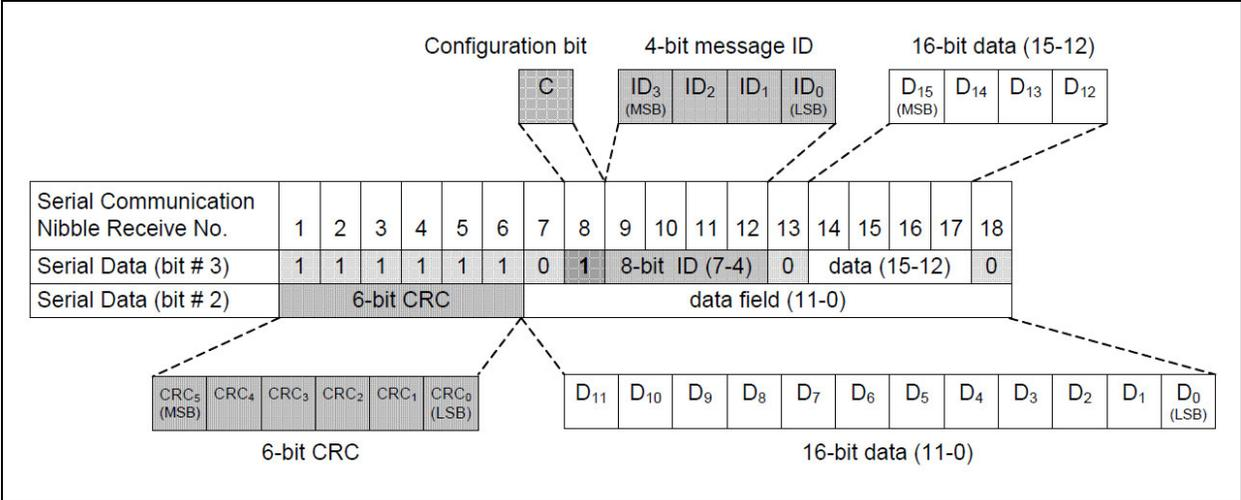

FIGURE 4-10: 16-Bit Data and 4-Bit Message ID.
- 16-bit data and 4-bit Message ID (Configuration bit = 1, Figure 4-10)